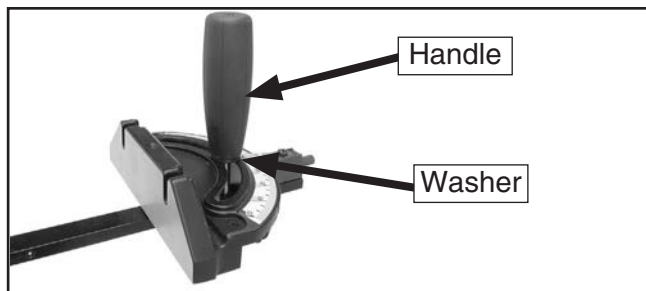

Figure 43. Miter gauge installed.
8. Install the handle with 8mm flat washer onto the miter gauge, as shown in **Figure 43**.